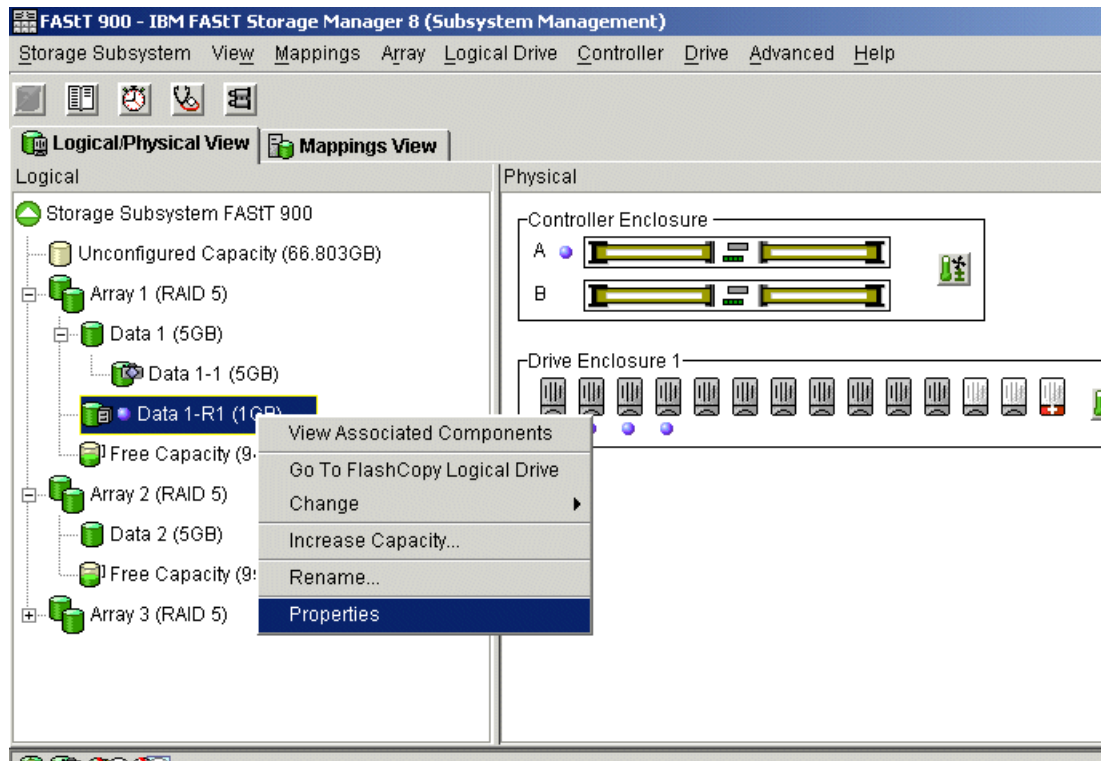

Figure 7-32 Repository Logical Drive properties
2. Click **Logical Drive -> Properties**. Or you can right-click and select **Properties** as shown in Figure 7-32.